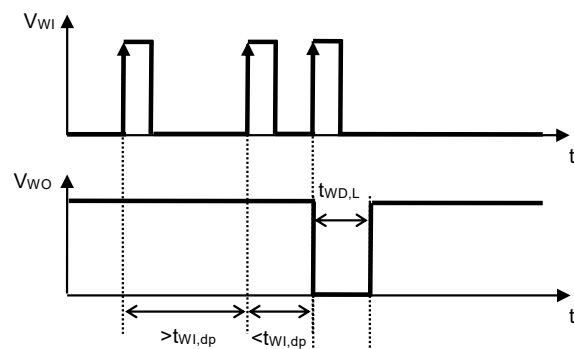

Figure 12 Watchdog Double-pulse Detection Time
*3. The time from when the watchdog timer initiates the detection of a trigger signal to when a trigger is detected again before $t_{WI,dp}$ elapses and the WO pin output changes to "L" (Refer to **Figure 12**. This value changes according to C_{DLY} .